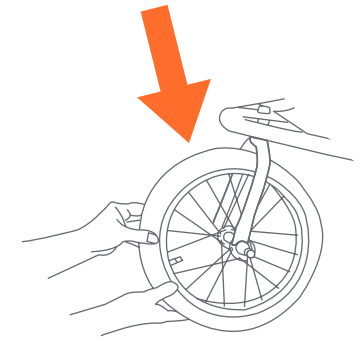

Fig. 20
20) • Lift the front wheel off of the ground and sharply strike the top of the tire (Fig. 20). The wheel should not be loose or come off.